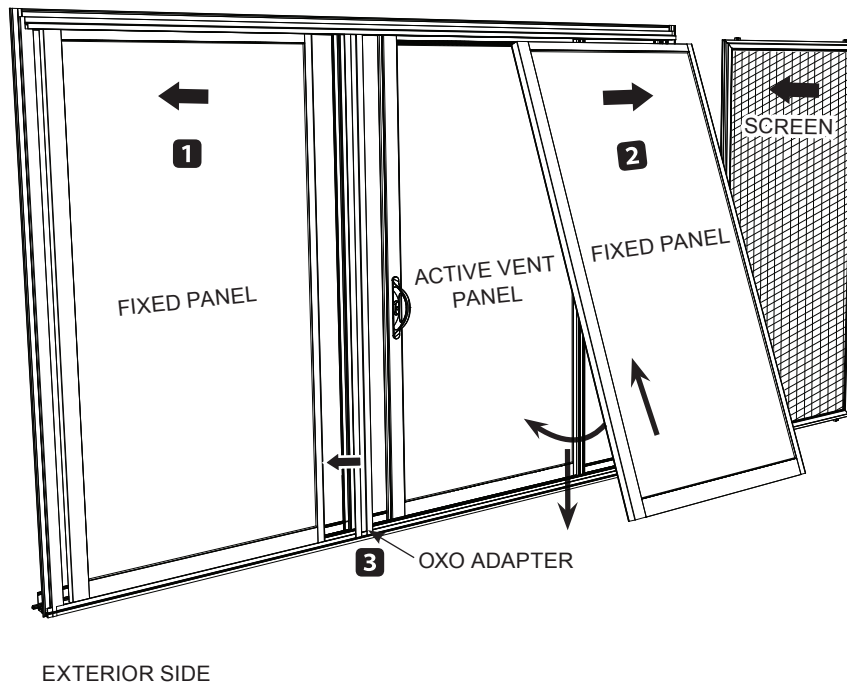

FIG. 49
3. Install the fixed panels on either side of the active vent. Slide the fixed panels to each end of the frame. Steps 1 and 2 in FIG. 49.
4. Place OXO adapter on sill and slide tight to fixed panel. See step 3 in FIG. 49 on page 22.